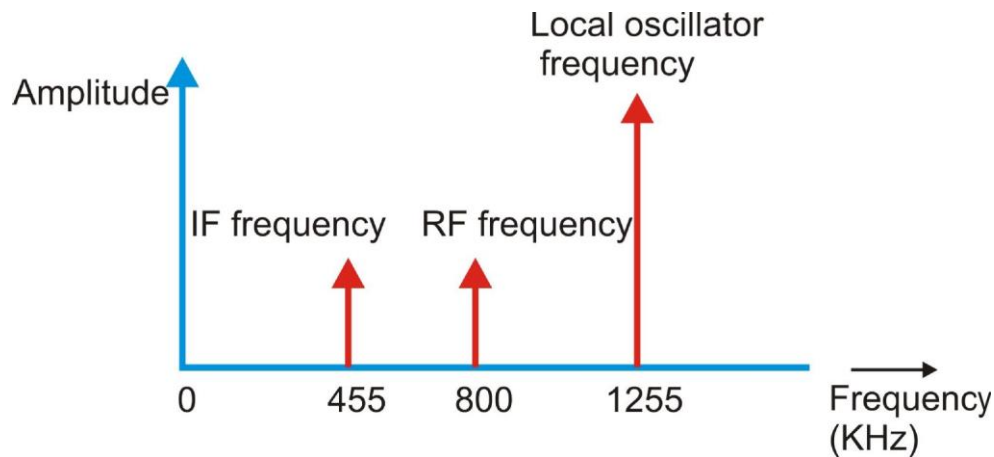

Figure 21
**Note:** In Figure 21, the local oscillator output is shown larger than the IF and RF frequency components, this is usually the case. However, there is no fixed relationship between the actual amplitudes. Similarly, the IF and RF amplitudes are shown as being equal in amplitude but again there is no significance in this.